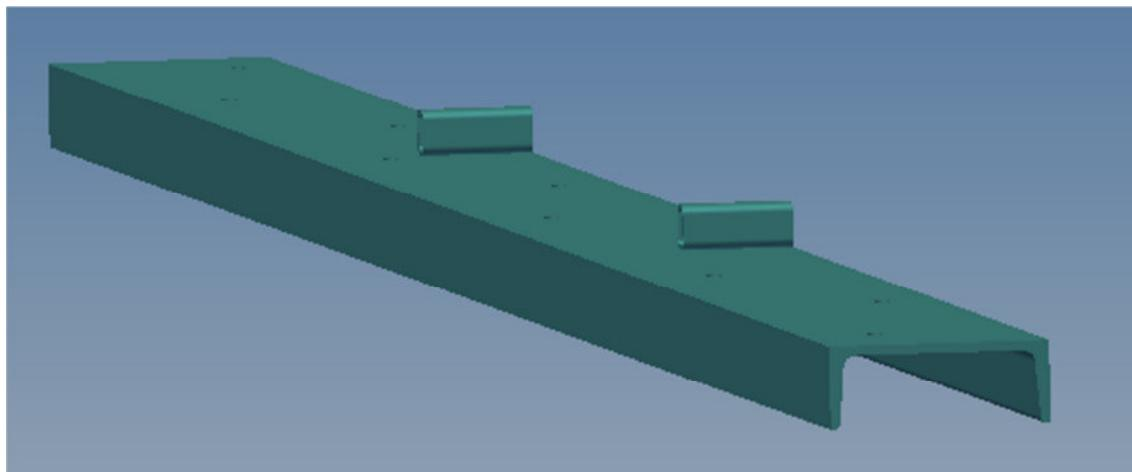

Fig. 7 Top chord incl. brace adapting bush (Excerpt)
- 3.2.9 The pillars adapting the sloped bracing (Fig. 7) have to be installed at the provided places according to the position plan and will be fixed at the ground plate by means of the delivered dowels. Simultaneous the have to be fixed by welding at the top chord on the description of the static calculation. Subsequently the sloped brace has to be installed as described in item 3.2.8 and then coupled at the tension rod oft he foundation by using a connecting socket.